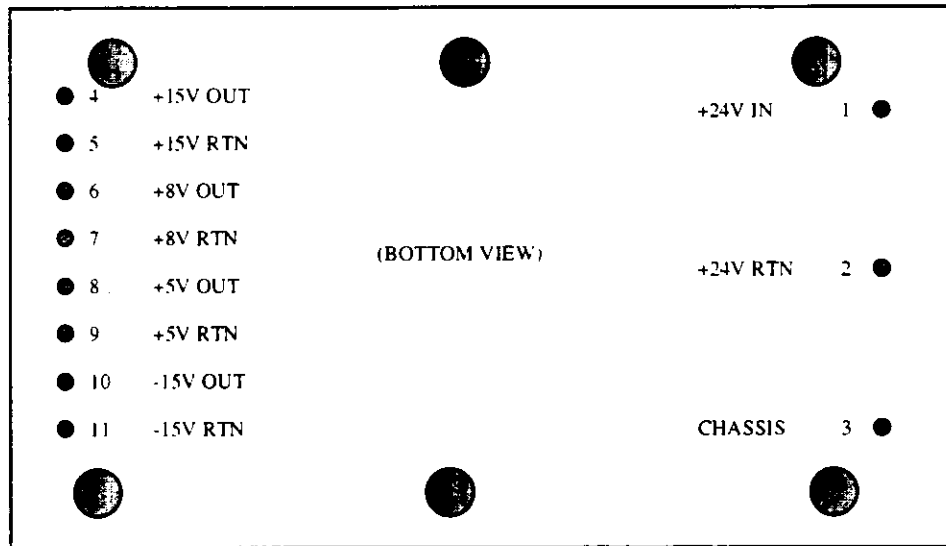

Figure 5-14. HIC Power Supply Pin Orientation
- g. On bottom side of HIC, measure voltages between the following power supply pins (Figure 5-14):